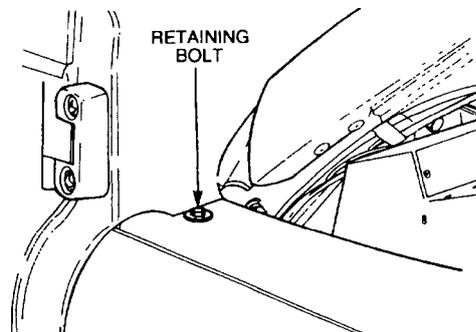

Figure 98 Mudguard to Firewall Removal
- n. Remove the bolt and flat washer securing the top of the mudguard to the firewall bracket (Figure 98).